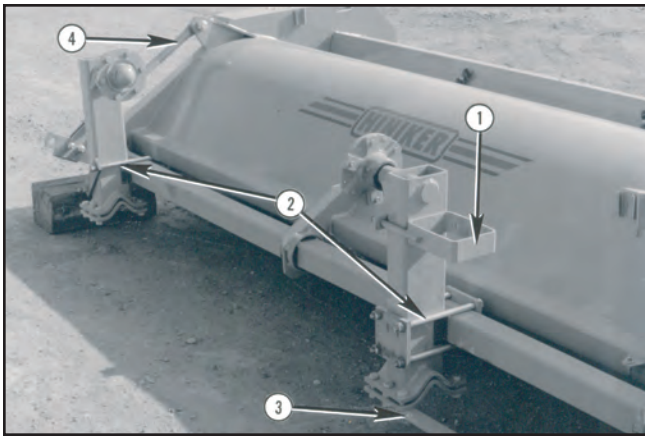

FIGURE 105
Remove and discard both forklift pockets (1). Also remove and discard wheel leg shipping “U” bolts (2) and other dunnage & bolts (3). There are 4 wheel legs on all width shredders, except 12’, which has only 2. Refer to Figure 105 on page 45.